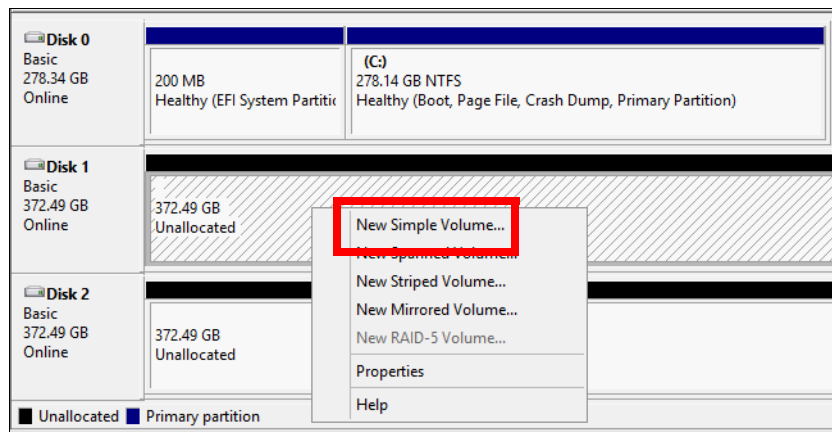

Figure 5-51 Creating a volume
- After the disks are initialized, you can create volumes. Right-click the NVMe drive and select the required volume to create, as shown in Figure 5-51 on page 193.